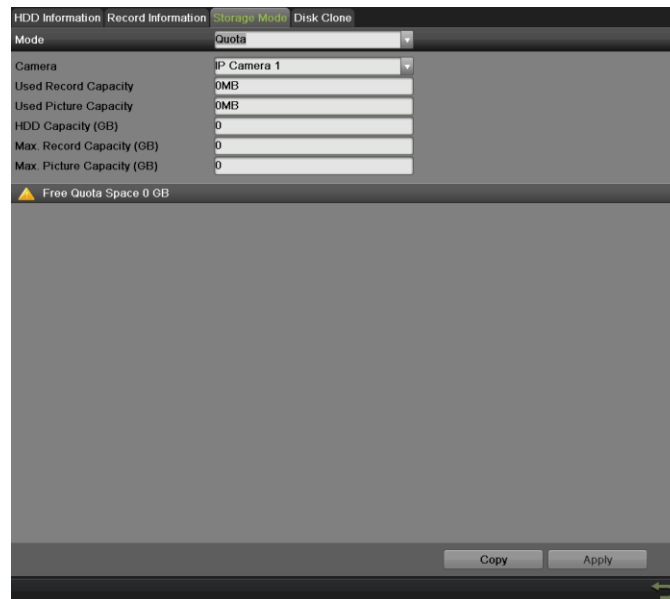

Figure 197 Quota Mode Settings Menu
2. Select the Storage Mode tab, as shown in **Figure 197**.